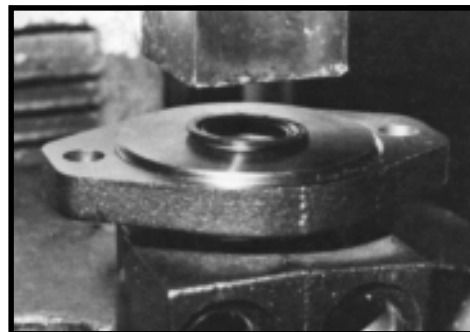

Figure 40
The Small Frame Series TB and TE Torqlink™ dirt and water seal (20) must be pressed in until its' flange is flush against the housing. SEE FIGURE 40.